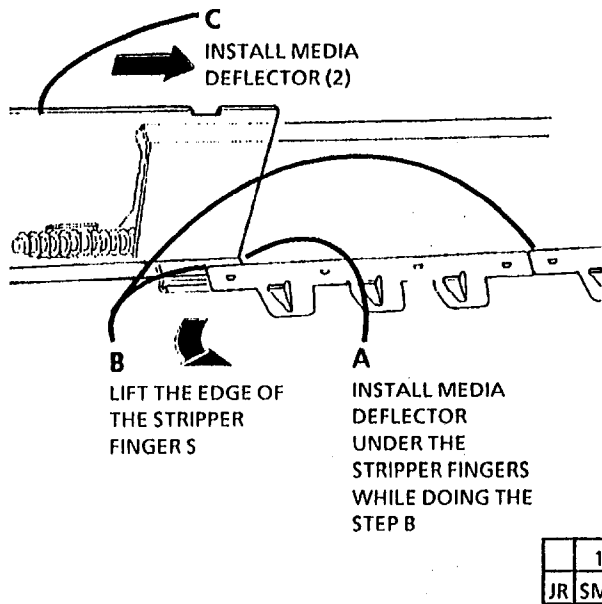

Figure 2. Install the Media Deflectors
1. (Figure 2): Install the media deflectors.